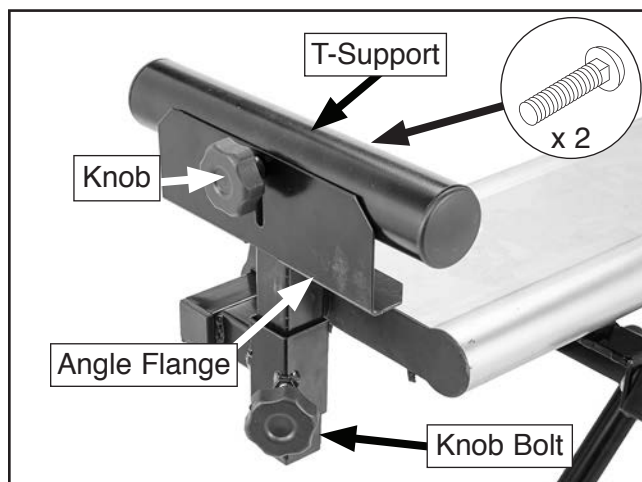

Figure 12. T-support angle flange installed.
12. Locate (2) T-supports, (2) M6-1 x 55 carriage bolts, (2) knobs, and (2) knob bolts.
13. Attach T-support onto support tube using knob bolt, as shown in **Figure 12**.
14. Install angle flange using M6-1 x 55 carriage bolt and knob, as shown in **Figure 12**.